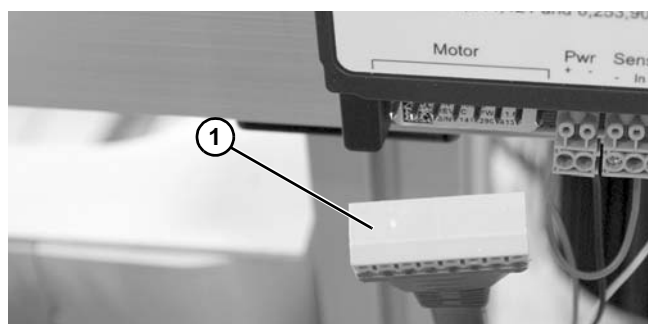

Figure 82
5. Install motor connector (**Figure 82, item 1**) to drive control.